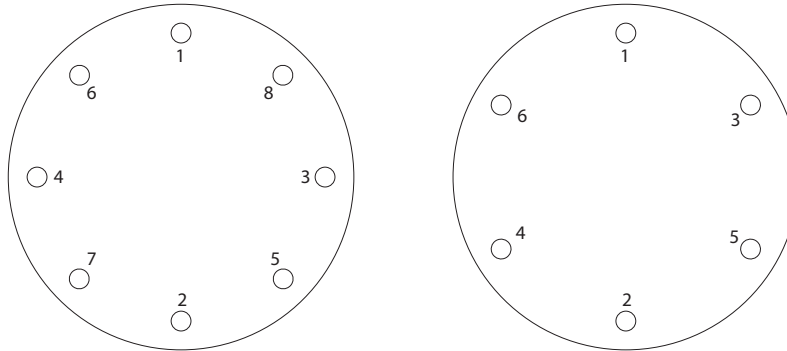

Figure 5
8.3 Tighten all screws in incremental steps in the order shown in *Figure 5*.